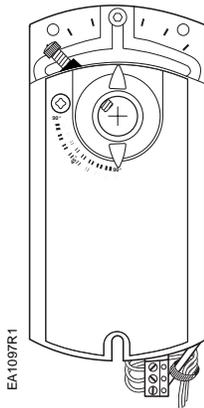

Figure 19.
2. Secure the wires to the actuator bracket with a cable tie as shown in Figure 19.